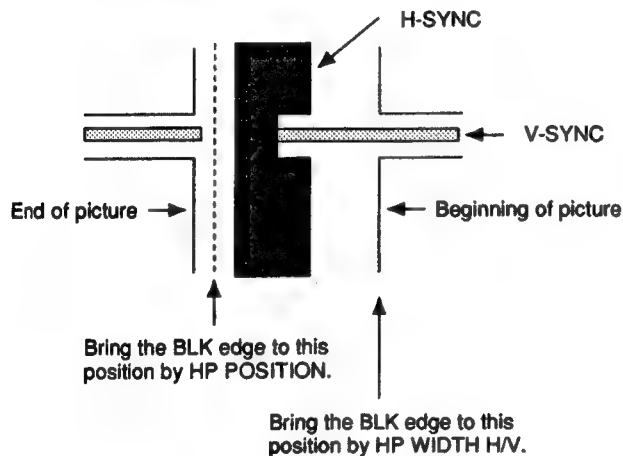

Fig. 5-30
- 4) Adjust **[HP POSITION]** as shown in Fig.5-30.
- 4) Adjust **[HP WIDTH H/V-DELAY]** as shown in Fig.5-30. (Note: Check HP POSITION. If it is not in position, repeat 2) and 3).)